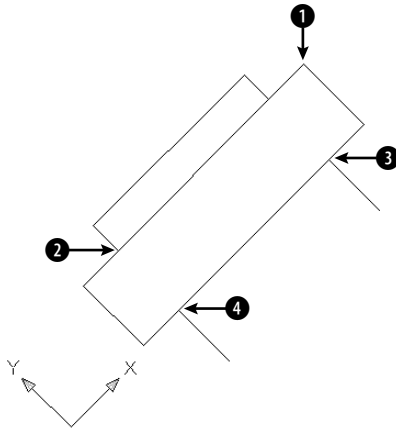

Figure 8-20: Using a customized UCS to start to draw a detail for a drill.
Base point: *Use the Endpoint object snap to pick point ① in Figure 8-20.*